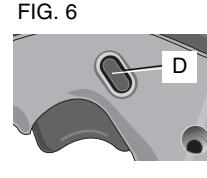

FIG. 7
1. Lift the keyless blade lever (E) as shown in Figure 7.
2. Insert the T-shank blade into the clamp mechanism (K) while guiding the back of the blade into the groove of the guide rollers (L).
3. The T-shank should be completely inside the clamp mechanism as shown in Figure 7.